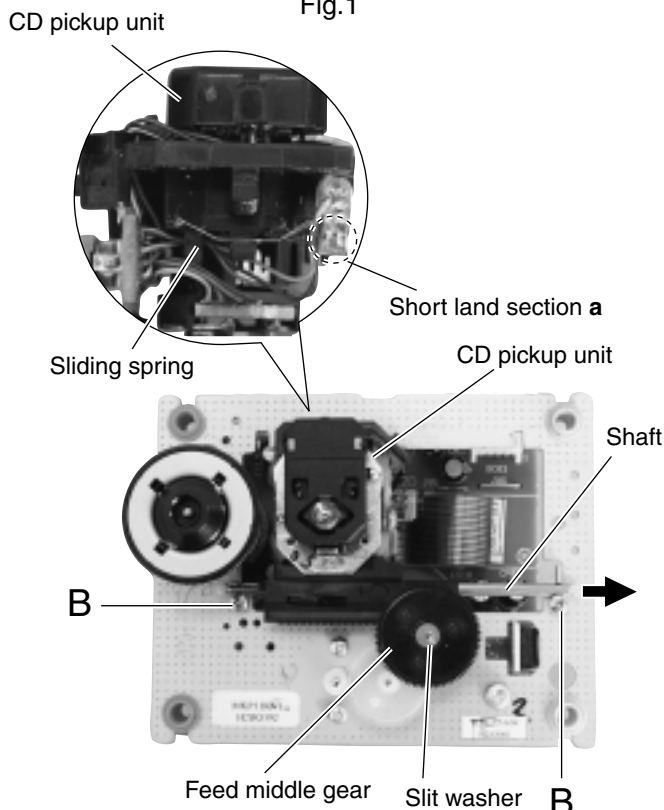

Fig.2
2. Remove the slit washer retaining the feed middle gear and take out the feed middle gear. (See Fig.2.)
3. Loosen the two screws **B** retaining the shaft and pull out the shaft in the direction of the arrow. (See Fig.2.)
**[Caution]** • Be sure to apply the solder in order to the short land section a on the CD pickup unit before removing the flexible wire from the CD pickup unit. (See Fig.2.)
**[Note]** • In the assembly, be sure to attach the sliding spring in the correct orientation before attaching the CD pickup unit. (See Fig.2.)